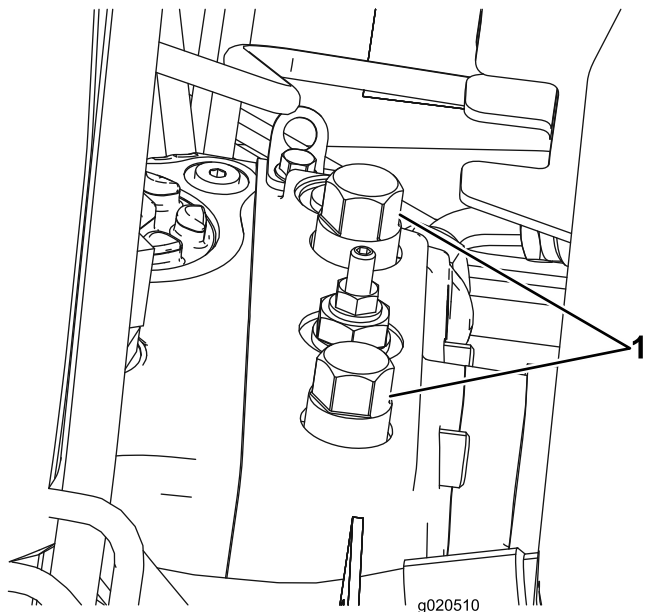

Figure 21
1. Open the hood and locate the bypass valves (Figure 21) on the top of pump, behind the battery/storage boxes.